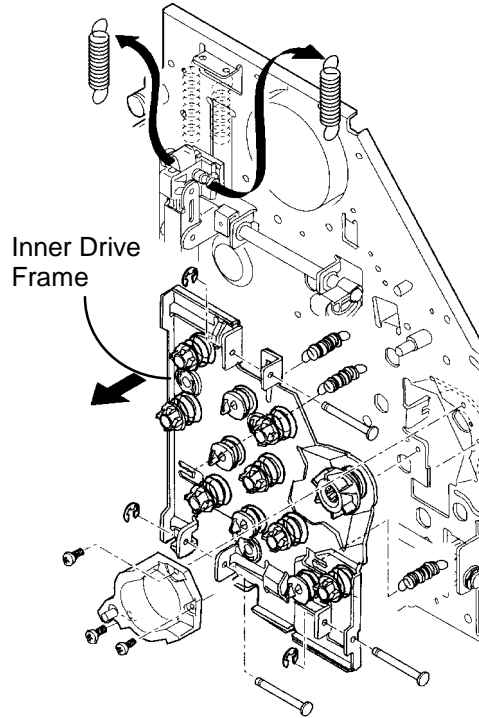

Figure 4. Removing the Inner Frame
5. (Figure 4): Remove the Inner Drive Frame.